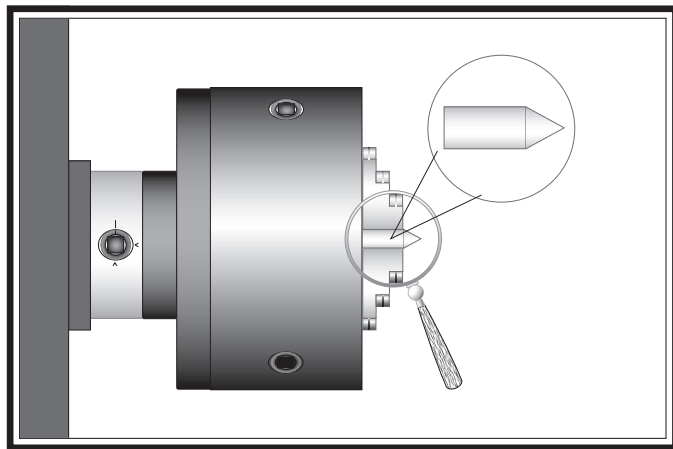

Figure 45. Turning a dead center.
3. Use the other piece of round stock to make a dead center, and turn it to a 60° point, as illustrated in **Figure 45**.